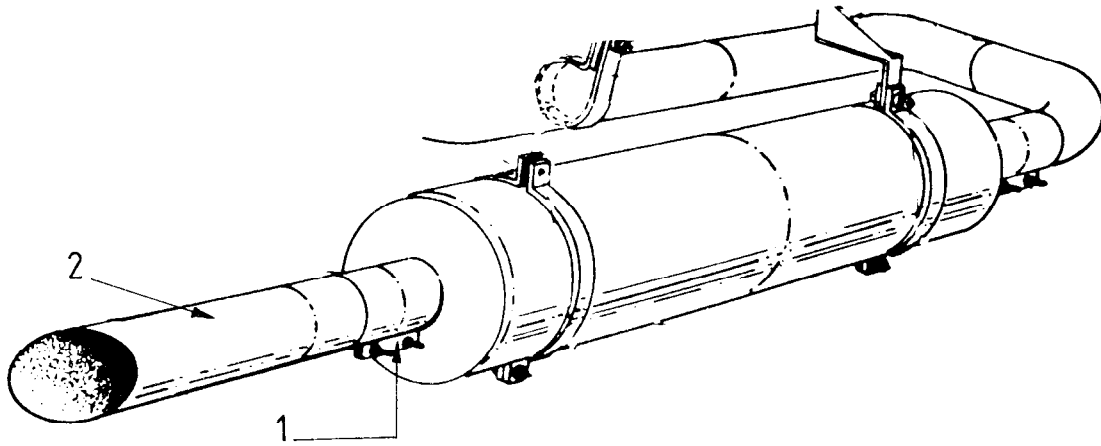
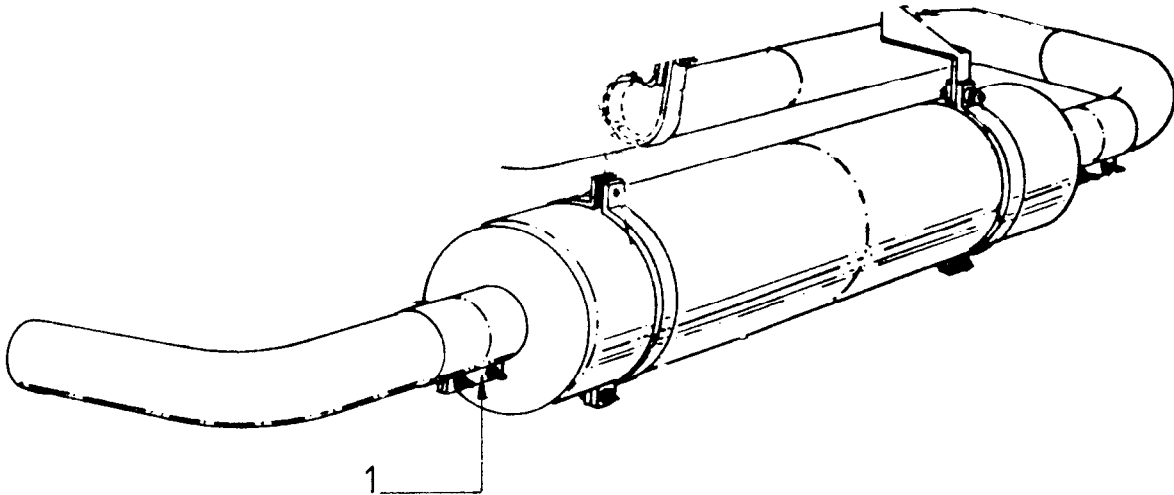

FIG 1 - STRAIGHT EXHAUST TAIL PIPE
FIG 2 - CURVED EXHAUST TAIL PIPE
- a. Loosen the clamp, item 1 in Fig 1 and remove the exhaust tail pipe, item 2.
- b. Using the original clamp, item 1 in Figs 1 and 2, fit the new exhaust tail pipe, item 1 Table 1 as shown in Fig 2. Ensure the tail pipe is facing rearward and slightly downward and tighten the clamp.